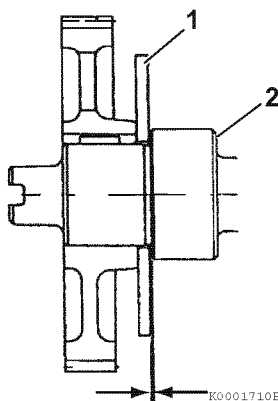

Figure 6-47
- **Method B:** Use a feeler gauge to measure the clearance between the thrust plate (Figure 6-47, (1)) and front camshaft bearing (Figure 6-47, (2)). Record the measurement. See *Thrust Bearing* on page 6-9 for the service limit.